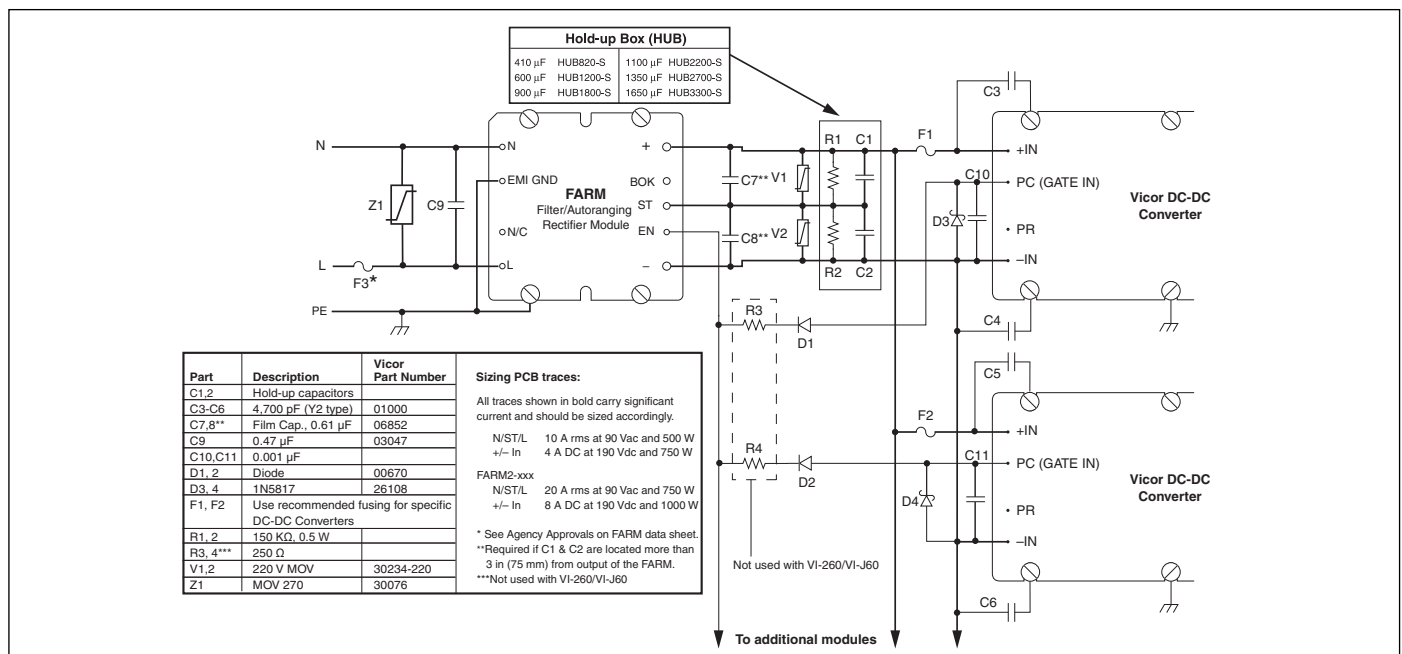

Figure 8-3 — Offline power supply configuration
Strap (ST) Pin. In addition to input and output power pin connections, it is necessary to connect the Strap pin to the center junction of the series hold-up capacitors (C1, C2, Figure 8-3) for proper (autoranging) operation. Metal-oxide varistors, V1 and V2 provide capacitor protection. The bleeder resistors (R1, R2, Figure 8-3) discharge the hold-up capacitors when power is switched off. Capacitors C7 and C8 are recommended if the hold-up capacitors are located more than 3 inches (75 mm) from the FARM output pins.